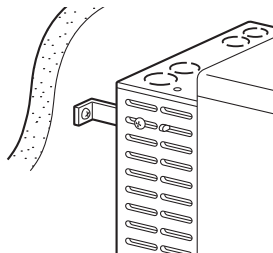

Fig. 13
10. After installation is completed, secure heater to the wall with the wall brackets provided with the heater. Make sure the heater is parallel to the wall (See Fig. 13).